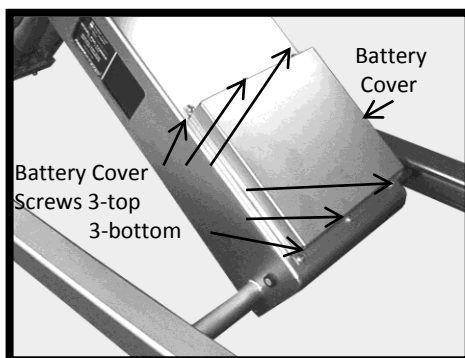

Figure 14: Battery Cover and Screws
3. With a Phillips screwdriver, remove the six battery cover screws (Figure 14) and remove the cover.